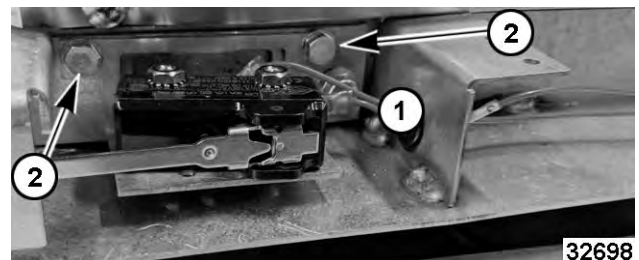

Fig. 34
2. Disconnect leads (1, Fig. 34) to door switch.
3. Remove door switch bracket mounting screws (2, Fig. 34).